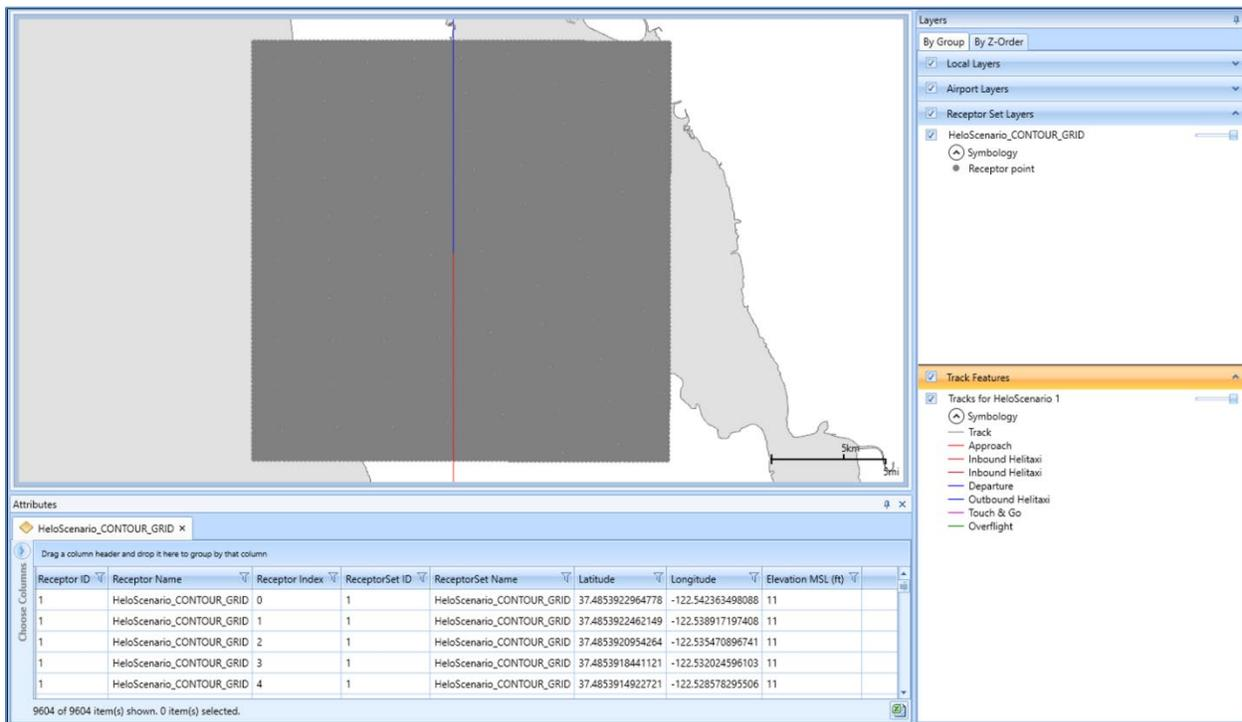

Figure 5-40 Sample Receptor Set Layer with Attributes – shown with Tracks
3. The Receptor Set Layer is displayed on the map (Figure 5-40) and in the *Layers* manager.
The following attributes are available for all Receptor Set Layers: receptor ID, receptor name, receptor index, receptor set ID, receptor set name, latitude, longitude, elevation (Figure 5-40). See Appendix B.3 for descriptions of the attributes.
The following attributes are available for all Noise Exposure Layers: receptor ID, receptor name, receptor index, receptor set ID, receptor set name, latitude, longitude, elevation, noise results (dB, Minutes, %, or Operation count), metric type, and metric name (Figure 5-40). See Appendix B.3 for descriptions of the attributes.